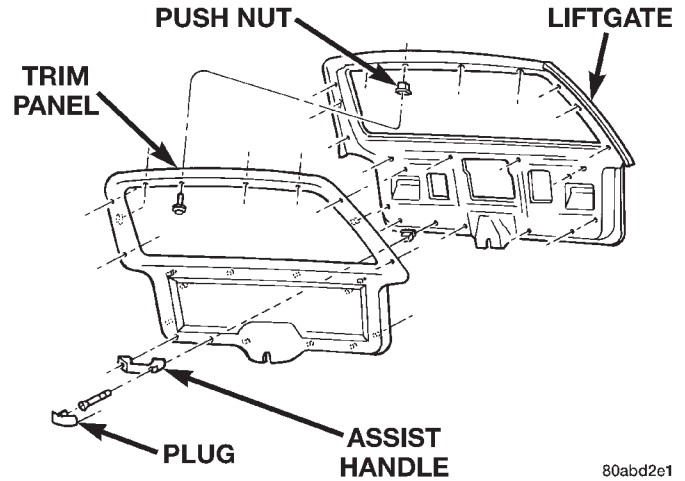

Fig. 88 Liftgate Trim Panel
- (1) Using a small flat blade, pry out the trim plugs from the liftgate assist handle.
- (2) Remove the screws attaching the assist handle to the liftgate (Fig. 88).
- (3) Remove the screws that attach the liftgate trim panel to the liftgate.
- (4) Using a trim panel removal tool, detach the push-in fasteners from the liftgate.